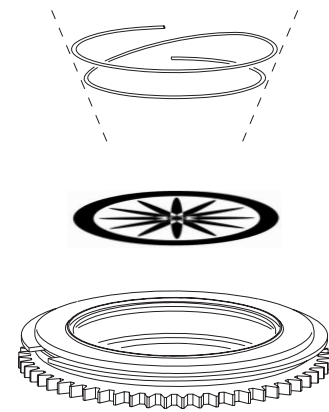
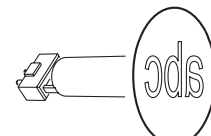

Figure 21: Rotating gobo holder
Figure 22. Correct gobo orientation
Correct gobo orientation is critical. Read the guidelines in Figure 22 carefully before installing a gobo.
5. Insert the new gobo in the holder with the side that must face towards the lamp facing upwards, towards the spring (see Figure 21 and Figure 22).
6. Insert the spring with the narrow end against the gobo, as shown in Figure 21. To identify the narrow end, press the spring flat: the narrow end is on the inside. Push the end of the spring in under the lip of the holder.
The orientations shown in Figure 22 are correct in most cases, but consult your Martin dealer or gobo supplier if you are in any doubt about the orientation of a specific gobo type.